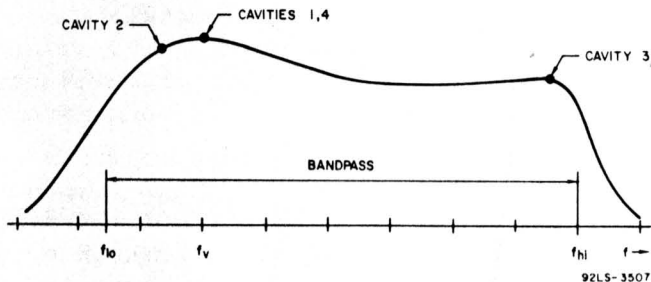

Figure 7 — Response Presentation after Tuning Cavity 2 to 0.5 MHz above F_{lo}
6. Tune cavity 2 lower in frequency (counterclockwise) to a frequency which is approximately 0.5 MHz higher than the low end of the desired bandpass. See Figure 7.